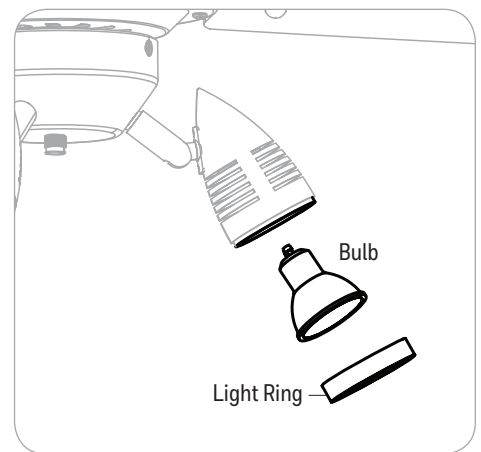

Figure 5.6
6. Unscrew and remove the light rings from the bottom of the three light housings. Then, install the bulbs and re-install the light rings. **Caution:** When replacing bulbs, please allow bulb(s) and glass shade(s) to cool down before touching (Figure 5.6).